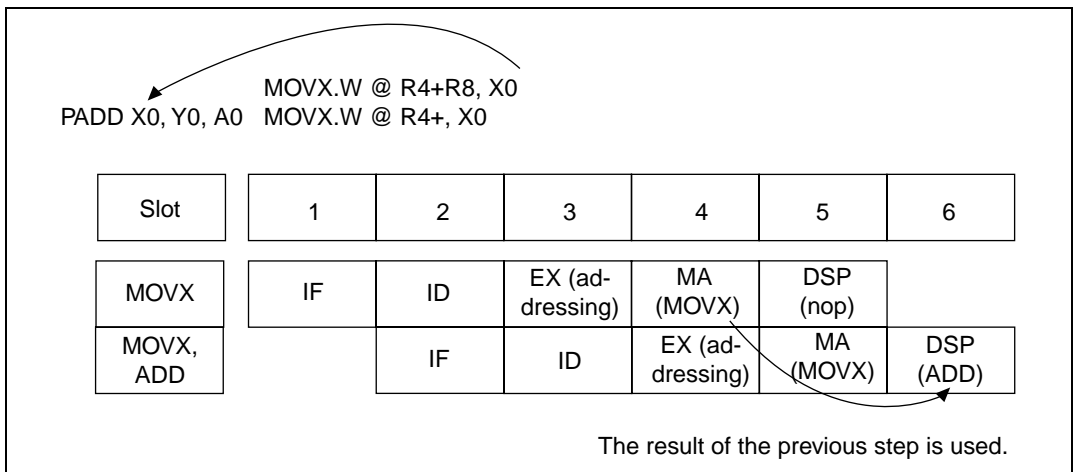

Figure 4.7 Sample Processing Flowchart
When the memory read destination operand is the same as the ALU operation source operand and the data transfer instruction program is written on the same line as the ALU operation, data loaded from memory in the memory access stage (MA) cannot be used as the source operand of the ALU operation instruction. When this occurs, the result of the instruction executed first is used as the source operand of the ALU operation and is updated as the destination operand of the data load instruction thereafter. Figure 4.7 is a flowchart of the operation.